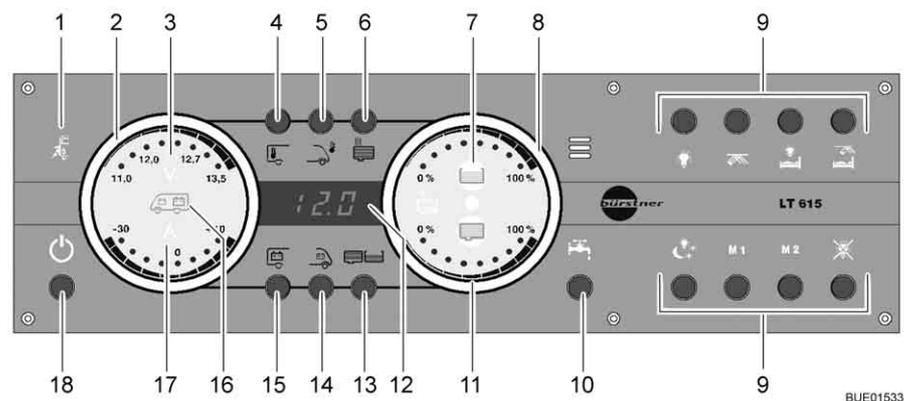

Fig. 157 Panel LT 615
The 230 V indicator lamp (Fig. 157,1) illuminates whenever line voltage is available at the transformer/rectifier input. The batteries are charged.
The 12 V main switch (Fig. 157,18) switches the panel and the 12 V power supply of the living area on and off.
- Briefly press the 12 V power supply button (Fig. 157,18). The 12 V living area power supply is switched on. The "12 V" indicator lights up.
- ▷ If, after switching on, the "11.0" LED of the volt indicator and the "V" volt symbol (Fig. 157,3) in the batteries gauge (Fig. 157,2) flash, the voltage of the living area battery is too low. Charge battery.
- ▷ If, after switching on, the "12 V" indicator and the "V" volt symbol (Fig. 157,3) flash three times, battery separation is activated. Deactivate battery separation.
- ▷ When the panel is switched off and the "V" symbol (Fig. 157,3) flashes red, the battery is then discharged. To protect the battery from total discharge, the panel can then not be switched on. Charge the battery as soon as possible.
- Briefly press the 12 V power supply button (Fig. 157,18). The 12 V living area power supply is switched off. The "12 V power supply" indicator goes out.
- Press button for living area battery (Fig. 157,15) and hold it down for approx. 10 seconds. The "V" volt symbol (Fig. 157,3) and the "12 V" indicator flash three times. The living area battery is disconnected from the 12 V power supply.
- Press the 12 V power supply button (Fig. 157,18) and hold it down for approx. 5 seconds. The "V" volt symbol (Fig. 157,3) and the "12 V" indicator flash three times. The living area battery is connected to the 12 V power supply. The indicator lights up after approx. 5 seconds.
- Press button for living area battery (Fig. 157,15). The "V" volt symbol (Fig. 157,3) lights up. The "A" amp symbol (Fig. 157,17) lights up as either white or red depending on whether it is charging or discharging. The battery voltage and electricity of the living area battery are displayed via the LEDs in the gauge. The residual capacity of the living area battery is shown as a percentage on the display.
- Press button for starter battery (Fig. 157,14). The "V" volt symbol (Fig. 157,3) lights up. The battery voltage of the starter battery is displayed using the LEDs in the gauge.
- Press tanks button (Fig. 157,13). The water tank (Fig. 157,7) and waste water tank (Fig. 157,11) symbols light up. The fill levels of the water tank (upper scale) and of the waste water tank (lower scale) are indicated using the LEDs in the gauge.
The water tank symbol (Fig. 157,7) or waste water tank symbol (Fig. 157,11) flashes when the water tank is empty or the waste water tank is full.
The internal and external temperatures can be indicated in °C using the digital display (Fig. 157,12).